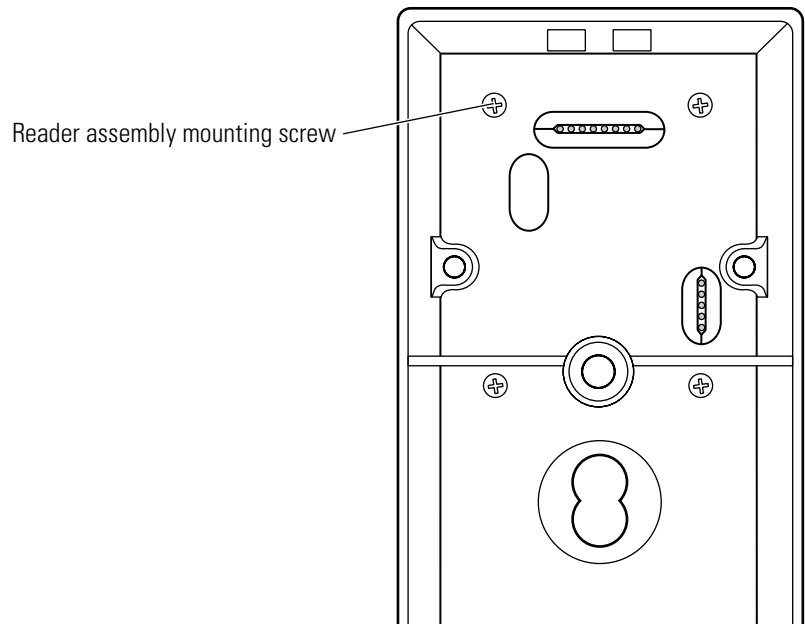

Figure 9.24 Removing the proximity reader assembly from the outside escutcheon
2. Remove and save the four reader assembly mounting screws. See Figure 9.24.
2. Position the reader assembly on the reader gasket and install the four reader assembly mounting screws. See Figure 9.24.